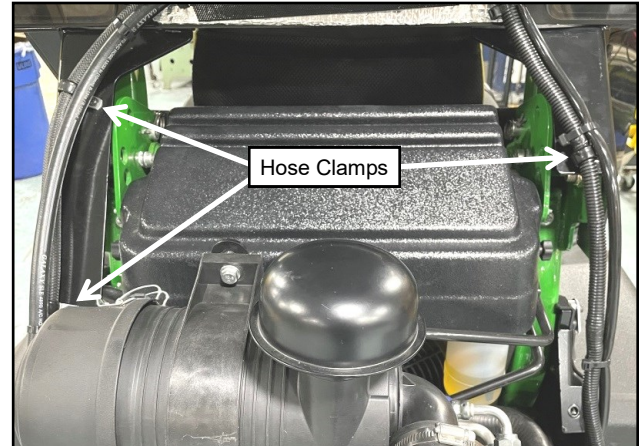

Fig. 2.26 (Install Hose Clamps on R.O.P.S Brackets)
**2.26** Secure the larger AC hose and the wire harness to the ROPS brackets using p-clamps as shown in Figure 2.26.